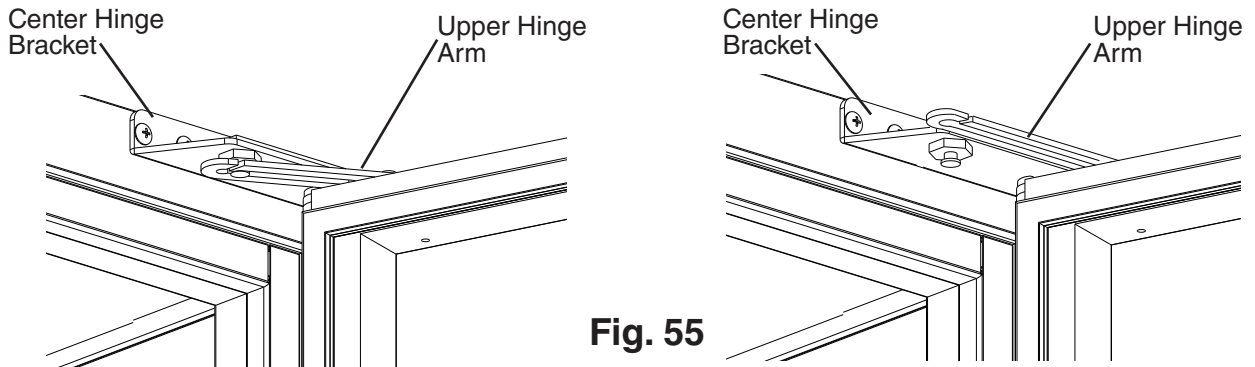

Fig. 55
7) Open the upper door. Using a flat head screwdriver, unhinge the upper hinge arm from the upper hinge bracket. See Fig. 55.